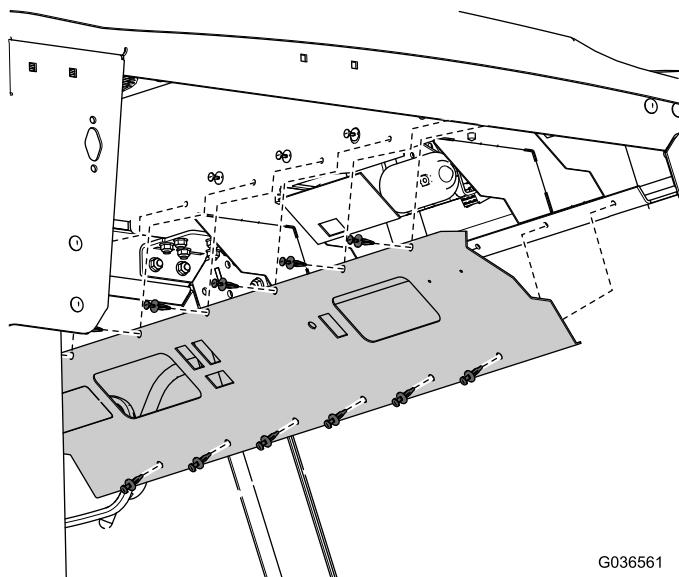

Figura 1
- Retire o painel frontal (Figura 1).